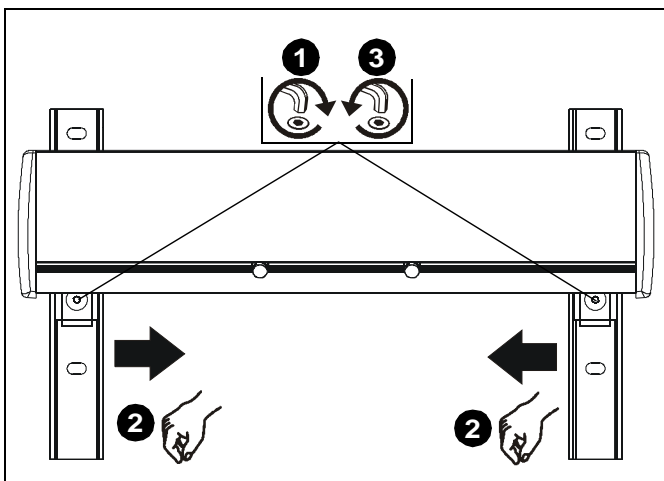

Figure 64
- Loosen two flat head cap screws on wall bracket. (See Figure 64)
- Slide wall brackets to corresponding width of studs. (See Figure 64)
- Tighten two flat head cap screws on wall bracket. (See Figure 64)